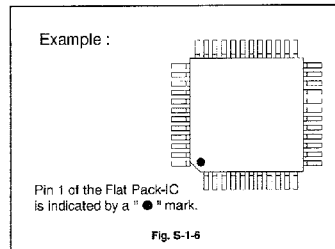
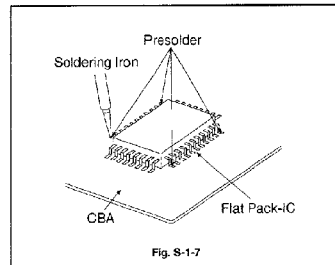

Fig. S-1-6
Fig. S-1-7
- b. The '●' mark on the Flat Pack - IC indicates pin 1 (See Fig. S-1-6). Make sure this mark matches the 1 on the CBA when positioning for installation. Then pre - solder the four corners of the Flat Pack- IC (See Fig. S-1-7).